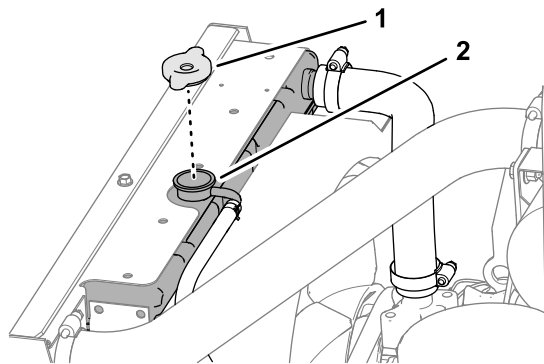

Figure 6
1. Remove the radiator cap from the radiator filler neck (Figure 6).